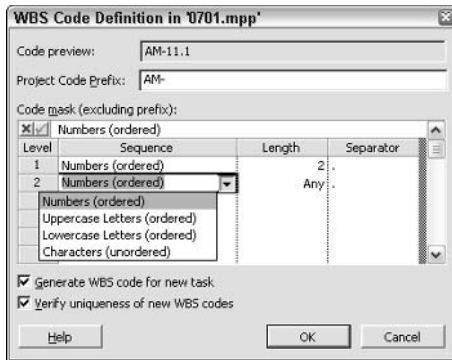

Figure 7-21: Use the WBS Code Definition dialog box to define the type of WBS code that you want to use.
3. In the Sequence column at the bottom of the box, select the type of character that you want to use for each level of the WBS code. In Figure 7-21, I've selected Numbers (ordered) for both Levels 1 and 2, but you can also include Uppercase Letters or Lowercase Letters. If you choose Characters (unordered), Project inserts an asterisk at that position of the WBS code.
4. Open the list box in the Length column, and choose the length for the level of the WBS code. In Figure 7-21, I set Level 1 to two digits, but I allowed any number of digits for Level 2. You can choose Any, select from the predefined list of numbers 1–10, or type in any other number.